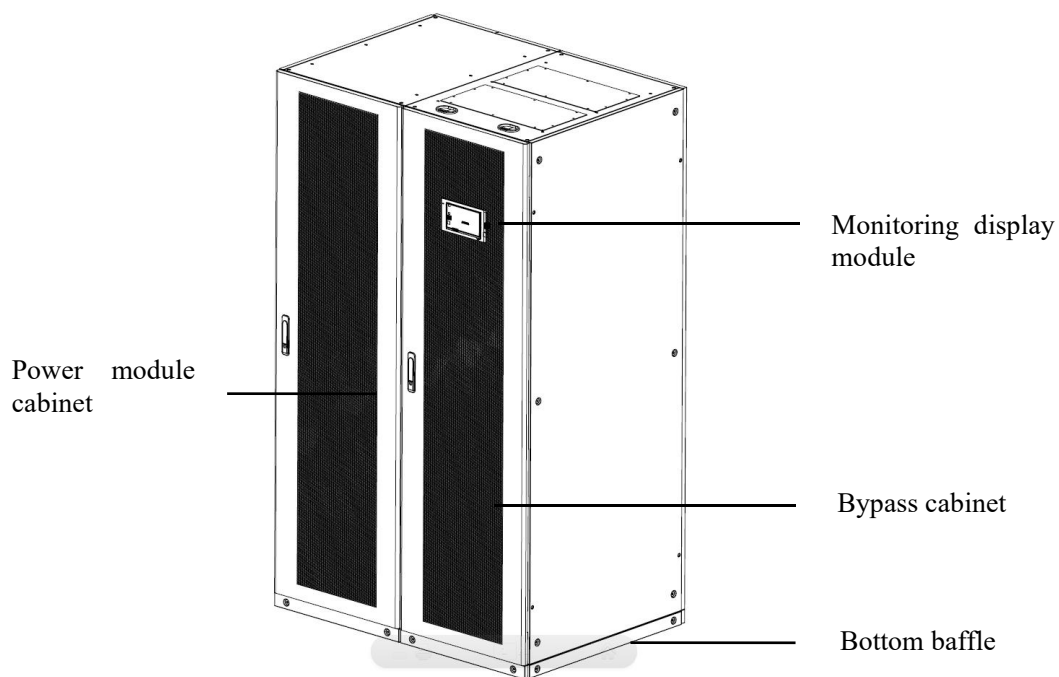

Fig. 1-2 Appearance of 500kVA UPS
2) 400kVA and 500kVA UPS have same appearance, as shown in Fig. 1-2: